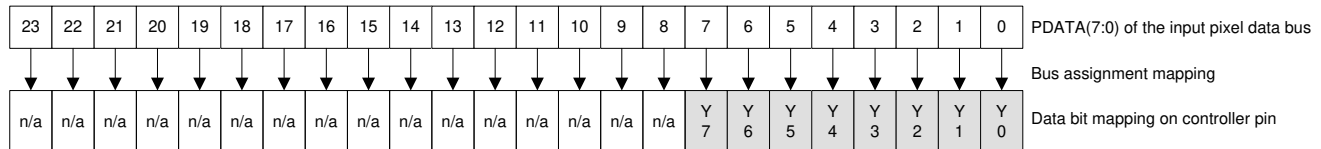

图 6-9. BT.656 Interface Mode Bit Mapping
- (1) Calculate clock jitter (in ns) using this formula: Jitter = $[1 / f_{clock} - 5.76 \text{ ns}]$. Clock jitter must maintain setup and hold times. BT.656 data bits must be mapped to the DLPC34xx PDATA bus as shown in 图 6-9 shows BT.656 bus mode YCbCr 4:2:2 source PDATA (23:0) mapping.
- (2) The BT.656 interface accepts 8-bits per color, 4:2:2 YCbCr data encoded per the industry standard through PDATA(7:0) on the active edge of PCLK. See 图 6-9.